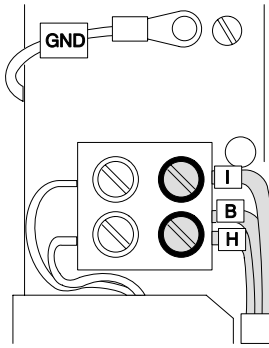

Figure 7 Connect the RTD
1. Loosen the three screws from the RTD terminal block as shown in Figure 7. Insert wires I, H, and B, extending from the hose, into the RTD terminal block.